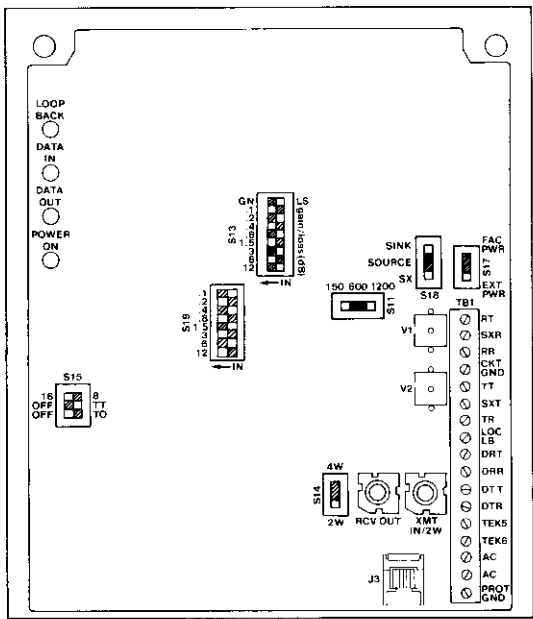

figure 8. 263DC option switch locations
3.07 Optioning the 263DC consists of selecting the facility-side impedance, the 2wire or 4wire data set interface, the loopback path gain, the tone-loopback release option, the power option, and selecting external or internal sealing current or normal simplex-lead derivation. The locations of the option switches are shown in figure 8. Table 5 contains a brief explanation of the functions and settings of each option switch plus a convenient optioning checklist. The checklist can be filled out (by checking the appropriate box for each switch)